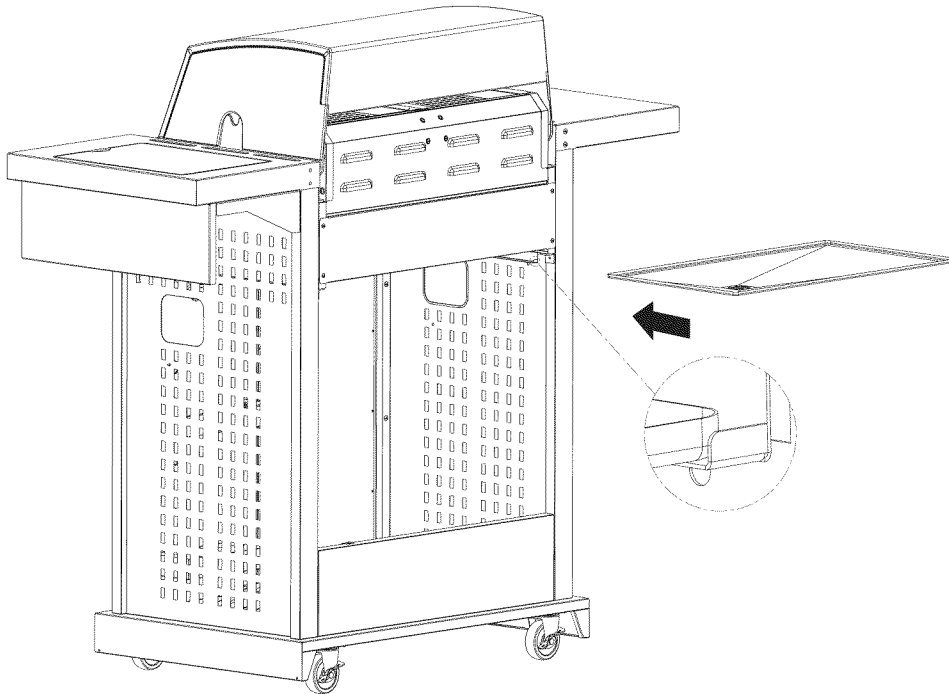

Fig. 13a
1. Take out the grease accumulate panel from the firebox, making sure the convex face is down and the drip cup hole is on left side of grease accumulate panel (when viewed from the rear) to ensure it will hold grease, and put it back as shown in **Fig. 13a**.